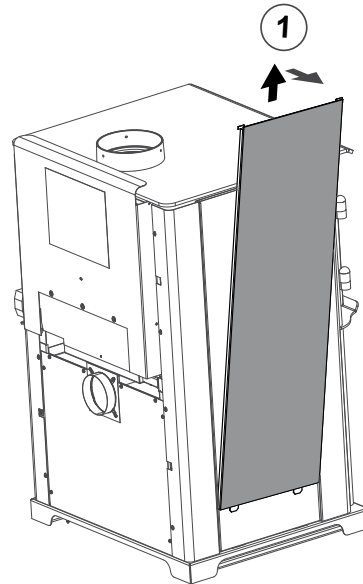

Figure 17.4
- Remove solid panel from side by lifting up and pulling away from appliance (use a flat tool to pry from bottom if needed) (Figure 17.4).
- Remove tile frame from side by lifting up and pulling away from appliance (Figure 17.4 reference **solid side panel removal**).